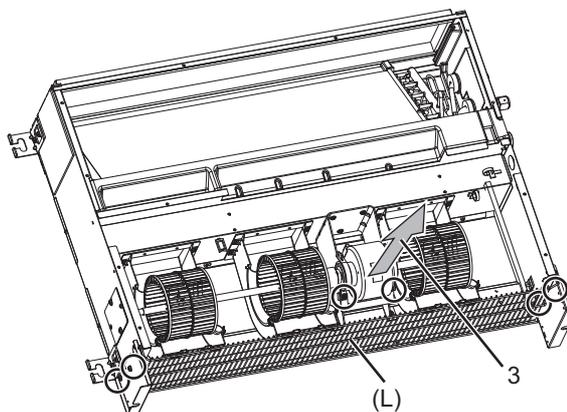

Fig. 12
- (1) Remove the two motor fixing screws to remove the motor and the Sirocco fan in the direction of arrow 3. (Fig. 12)
- (2) Remove the four fan guard (L) screws to remove it. (Fig. 12)